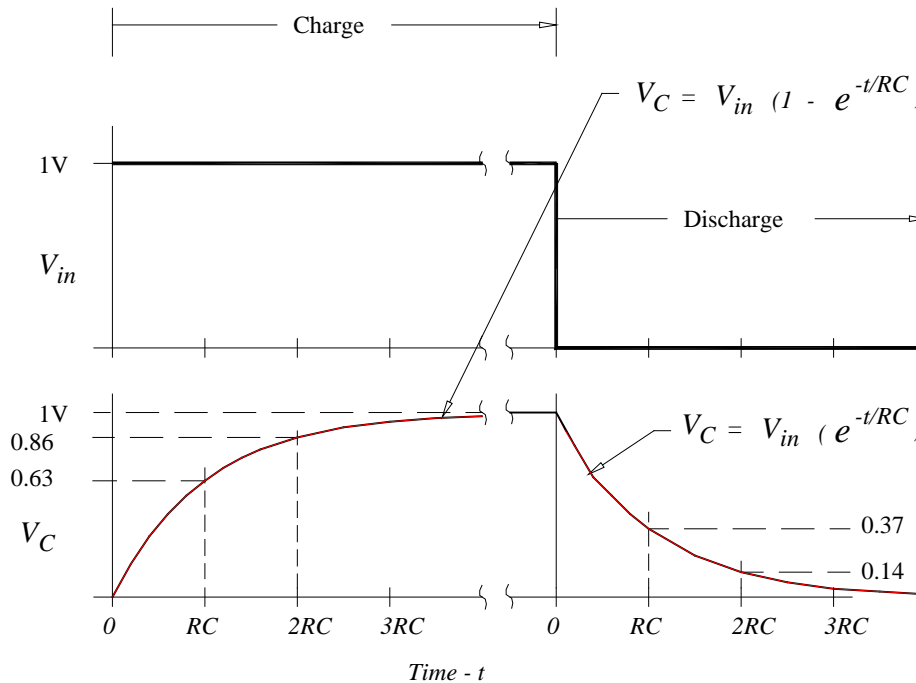

Figure 2 Graphs of the voltage from the switch and the voltage on a capacitor as a function of time as it is charged and discharged.
Look at Equation 2 and notice that if the time t is equal to RC , then Equation 2 becomes $V_c = V_o e^{-1}$. The number e is the base of the natural logarithms and is equal to approximately 2.718. So e^{-1} is just equal to $1/2.718 = 0.368$. V_c is therefore equal to $0.368V_o$ at this time. Figure 2 shows a generalized diagram of the charge and discharge cycle of an RC circuit. The graph on the top shows the voltage applied to the resistor and capacitor, and the graph on the bottom shows the voltage on the capacitor with respect to time. By measuring the time it takes the voltage to fall from V_o to $0.368V_o$, the time constant RC can be determined. Knowing R , we can determine the magnitude of C . This is the “ $1/e$ method” of measuring the time constant. It is also possible to measure the time constant by looking at the charging cycle. Today's lab involves measuring time constants to determine the capacitance C .
4) You are going to measure the time it takes the capacitor to discharge to $1/e$ of its initial value. For the discharge cycle, see Figure 2; the voltage after one time constant is $0.368V_0$. The function generator has been set so that V_0 is 8.0V (+4.0 to -4.0V) so $0.368 \times 8.0V = 2.94V \approx 2.9V$. One RC time constant is equal to the time it takes the voltage on the capacitor to go from 8.0V to 2.9V. Turn on the Cursors and move one of the cursor to the bottom of the screen so that it is at -4.0V. Move the other cursor so that the difference between the two is 2.94V. Measure the time it takes the voltage to go from the top left most corner to when it crosses this line. Remember to adjust the Time Base knob and horizontal position on the oscilloscope to get at least 3.3 horizontal divisions before the trace crosses the 2.9V level, thus maintaining 3% accuracy in your measurement. This time is RC .